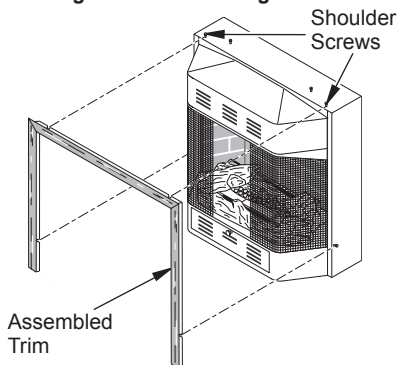

Figure 13 - Attaching Trim to Fireplace
4. Place trim on the shoulder screws located on the side and top of the fireplace. Firmly snap the trim over the shoulder screws on fireplace (see Figure 13).